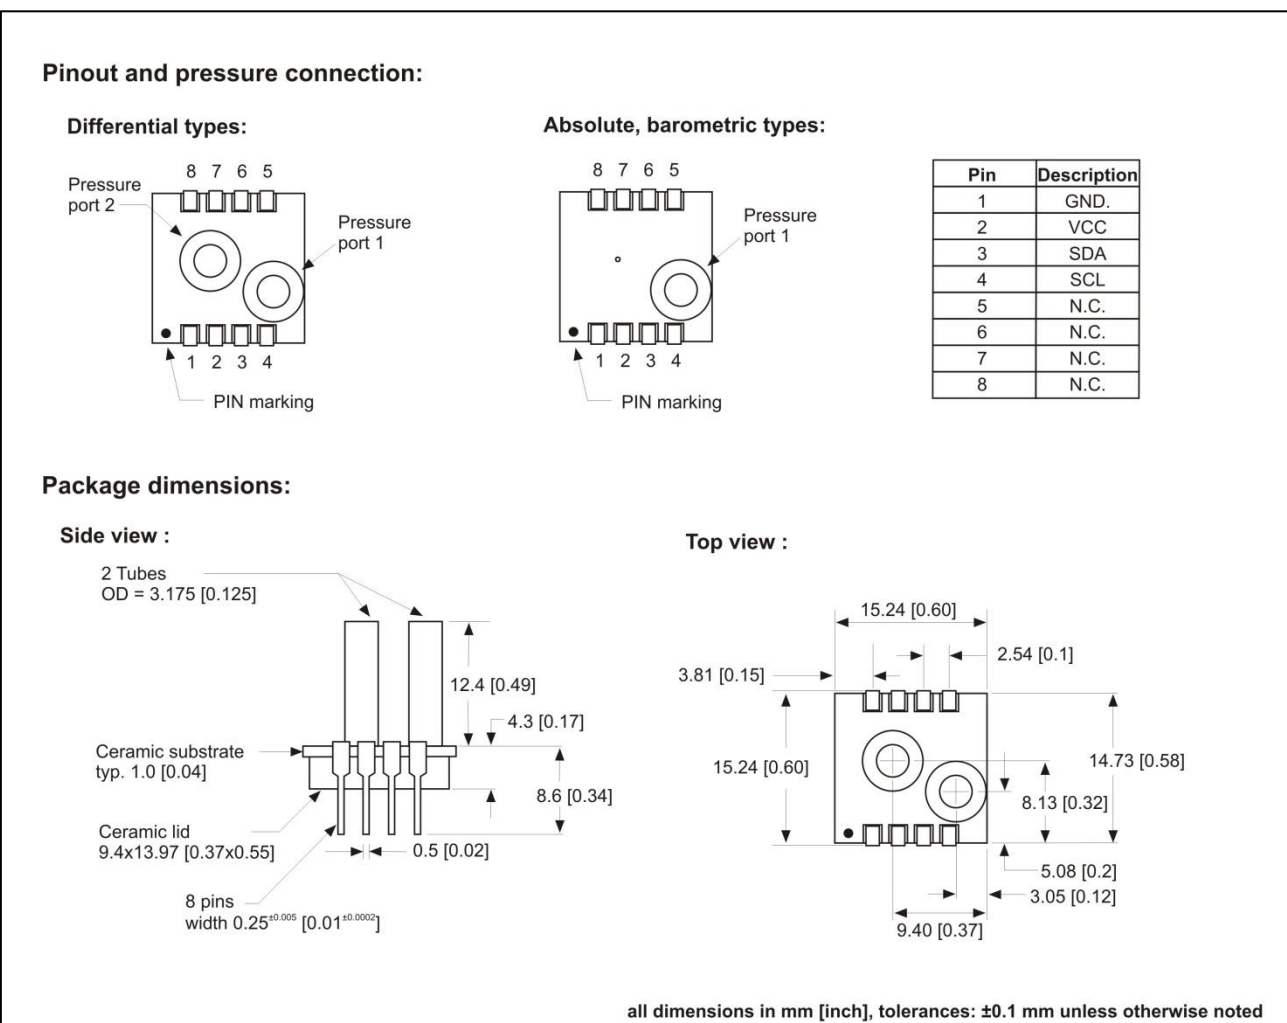

Figure 5: Dimensions of sensor types with vertical metal tubes
- 5) Accuracy is defined as the maximum deviation of the measurement value from the ideal characteristic curve at room temperature (RT) in %FSO including the adjustment error (offset and span), nonlinearity, pressure hysteresis and repeatability. Nonlinearity is the measured deviation from the best fit straight line (BFSL) across the entire pressure range. Pressure hysteresis is the maximum deviation of the output value at any pressure within the specified range when the pressure is cycled to and from the minimum or maximum rated pressure. Repeatability is the maximum deviation of the output value at any pressure within the specified range after 10 pressure cycles.
- 7) Media compatibility of pressure port 1 (for a description of port 1 see *Figure 5* and *Figure 6*): clean, dry gases, non-corrosive to silicon, RTV silicone rubber, epoxy, gold (alkaline or acidic liquids can destroy the sensor). For standard packages with tubes the media compatibility of the nickel-plated steel tubes has to be considered, too.
- 8) Media compatibility of pressure port 2 (for a description of port 2 see *Figure 5* and *Figure 6*): fluids and gases non-corrosive to silicon, Pyrex, RTV silicone rubber. For standard packages with tubes the media compatibility of the nickel-plated steel tubes and its epoxy adhesive has to be considered, too.
wherein p_1 = pressure at port 1 and p_2 = pressure at port 2. For port declaration see *Figure 5* and *Figure 6*. The media compatibility of pressure port 1 and port 2 can be found in “Specification notes”, 7 and 8.
The pinout and dimensions of AMS5915's dual-in-line package are shown in *Figure 5* for sensor types with vertical metal tubes (for connection with pressure hoses) and in *Figure 6* for sensor types for manifold assembly (-N option without tubes).
Notes on “Dimensions and Pinout” (Figure 5 and Figure 6):